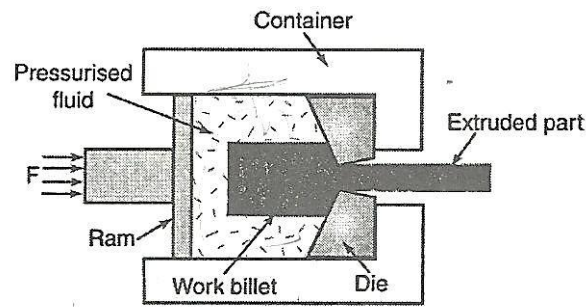

Figure 3.50 Hydrostatic Extrusion
- Figure 3.50 shows the working principle of hydrostatic extrusion.